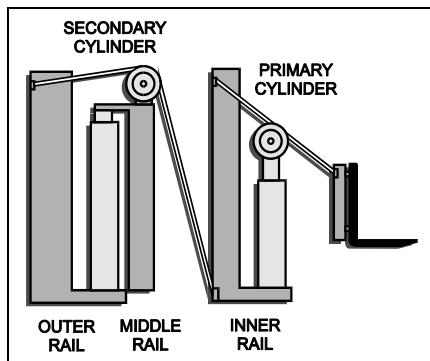
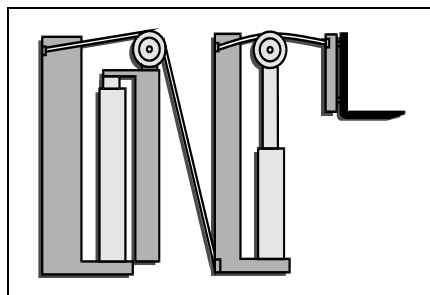

Figure 3-3: Mast - Collapsed
Figure 3-4: Mast - Free Lift
Masts are engineered to distribute thrust loads evenly between the rollers and rails. Masts move as a unit, providing maximum strength and endurance for the rated load and consist of up to four pairs of channels or rails (steel beams) rolling one within the other on steel rollers. The outer rails provide guidance and support for the middle rails, which in turn guide and support the inner rails. The truck forks are mounted on a carriage assembly that runs on rollers within the inner rails. See **Figure 3-3**. On a triplex mast, a primary cylinder is supported by the inner rails and hydraulically controlled. As the primary cylinder rod extends, a sheave and chain assembly lift the fork/carriage upward at twice the distance covered by the cylinder rod. This first stage of carriage lift is called free lift. It is the distance of lift available without increasing the overall height of the mast assembly. See **Figure 3-4**.
- Free lift, in which only the carriage assembly moves, up to the maximum height allowed by the inner rail. **See Figure 3-4.**